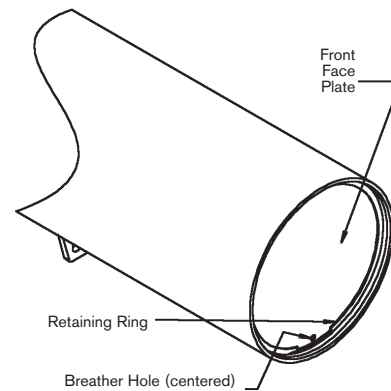

FIGURE 20 Location of the Breather Hole
**NOTE:** Make sure the breather hole is located at the bottom of the housing. If it is not, remove both front retaining rings and the face plate. Orient them so the breather hole is located at the bottom and the gaps in the retaining rings are centered over the breather hole. See FIGURE 20.
NOTE: Make sure the breather hole is located at the bottom of the housing. If it is not, remove both front retaining rings and the face plate. Orient them so the breather hole is located at the bottom and the gaps in the retaining rings are centered over the breather hole. See FIGURE 20.